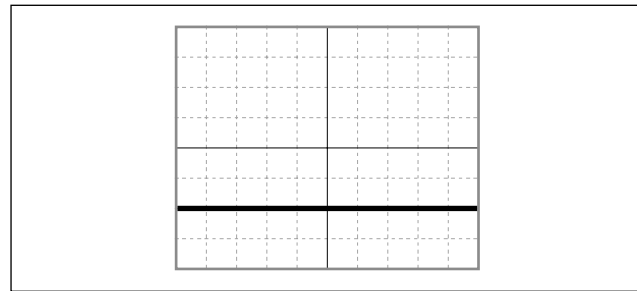

Fig. 4-6
- ① Set the TIME/DIV switch of the oscilloscope to 200 ms.
- ② Set the CH1 deflection sensitivity (VOLTS/DIV) of the oscilloscope to 500 mV/DIV.
- ③ Set the input coupling switch of CH1 of the oscilloscope to DC.
- ④ Set the offset of CH1 of the oscilloscope to 1 V. (Fig. 4-6)